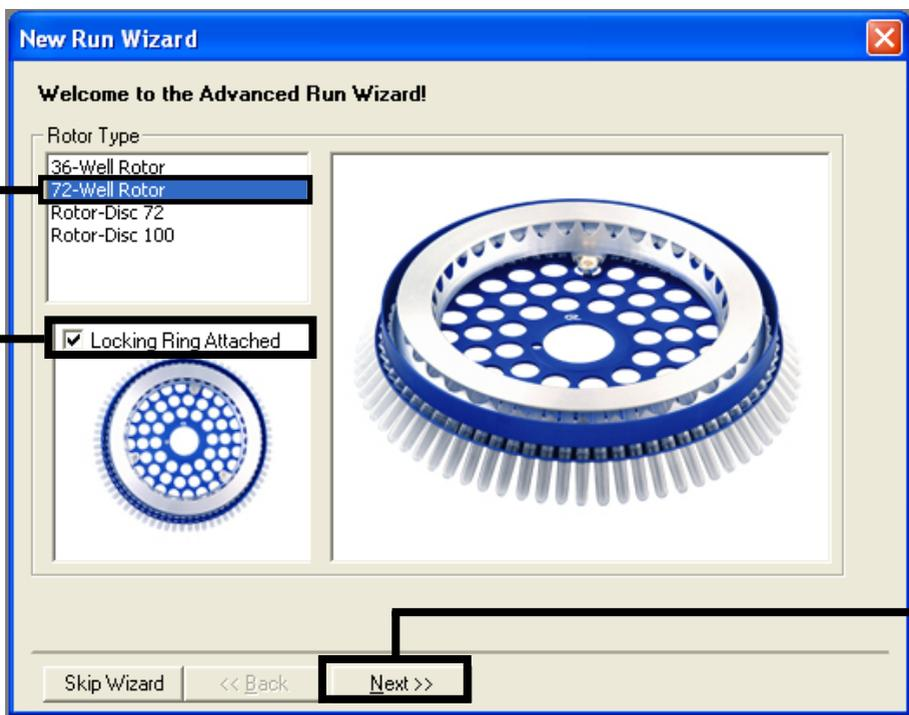

Figure 9. The “New Run Wizard” dialog box. 1 = “Rotor type, 2 = “Locking Ring Attached box,” 3 = “Next.”
3. Select 72-Well Rotor as the rotor type. Confirm that the locking ring is attached and check the “Locking Ring Attached” box. Click “Next” (Figure 9).